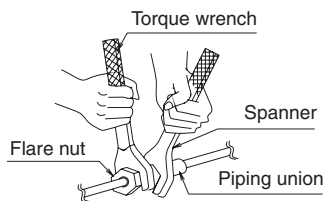

Fig. 11
- Be sure to use both a spanner and torque wrench together, as shown in the drawing, when connecting or disconnecting pipes to the unit. (Refer to Fig. 11)